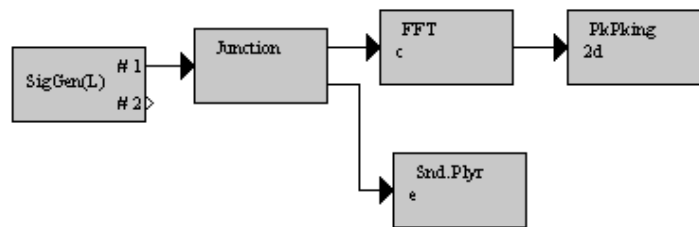

Figure 2.1: Peak Picking Analysis Stage.
**Step 1 (User-1):** Establish a simulation diagram as shown in Figure 2.1 and open the dialog windows of the Long signal generator, **SigGen(L)** and the Sound Player block, **Snd.Plyr**. Run the entire male speaker signal in the **SigGen(L)** dialog window by pressing the “>>|” button. Click on the [Play] button of the **Snd.Plyr** block to listen to the original male speaker signal generated by **SigGen(L)**.